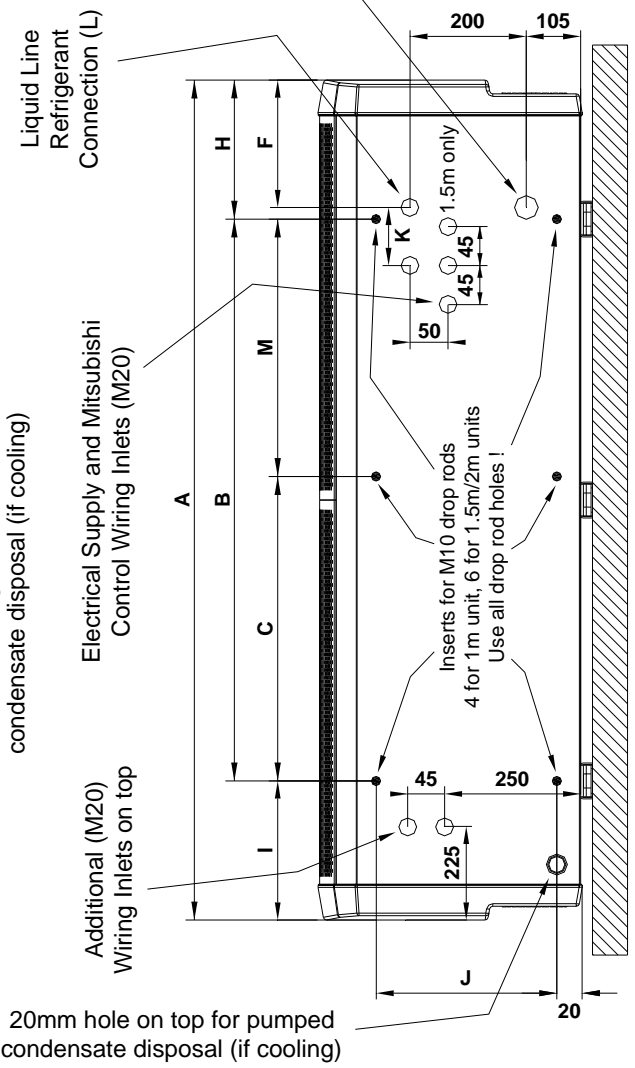

FIGURE 1 – DIMENSIONS OF VRF HP HEAT PUMP AIR CURTAIN
The air curtain is supplied with an integral condensate drain tray fitted inside the unit so it could be used in cooling mode during warm weather, if so desired. This should be decided at the design stage as a condensate drain system will need to be installed if cooling is required and extended to a suitable drain by the installer. The condensate can be drained by gravity by connecting suitable condensate hose onto the 15mm drain pipe on the condensate drain tray inside the air curtain. If a gravity condensate drain is not visually suitable it will be necessary to remove condensate using a condensate pump, supplied and fitted by the installer. The condensate pump can be located inside the right hand end of the air curtain or in a remote location outside of the unit if required. It must be of sufficient capacity, see Page 19, self priming and capable of providing the appropriate suction head so the pump will lift condensate out of the air curtain, particularly if it is in a remote location. There are two hole penetrations at the right hand end of the air curtain for condensate pipework to pass through, see Figure 1, Page 11. Suitable condensate pumps are Peristaltic or Rotary Diaphragm type. We recommend the Blue Diamond rotary diaphragm type with cooling signal sensor (drainStik) manufactured by Charles Austen Pumps Ltd. (www.miniblue.co.uk).
Step 1. Refer to Figure 1, Page 11 for mounting details and drill the fixing points in the wall.
M10 threaded inserts are provided in the top face of the unit (see Figure 1, Page 11 for positions) so it can be suspended on M10 threaded hanging rods (not provided). All suspension points must be used. Ensure each of the hanging rods is secured onto a suitable structure that can support the weight of the unit (see table above)*. Screw the hanging rods into the inserts by a minimum of 20mm and fit locking nuts (not provided) to prevent the rod rotating and coming away from the casing. Do not screw the hanging rod too far in or it could interfere with internal components.
It is intended that refrigerant pipe connections to the air curtain are made using brazed joints and these must be carried out in a professional and safe manner. If installation pipe sizes for the discharge (gas) line and liquid line are different from the pipe connection sizes on the air curtain (see Figure 1, Page 11), suitable pipe reducers must be used for the connection. R410A refrigerant systems can operate at pressures up to 610 psi (c. 42 Bar). These brazed joints may well be located in a public area and a weakness leading to an explosion could be extremely dangerous.
- A 25mm size cable gland or conduit connector should be used for the Electrical Supply into the air curtain. See Figure 1, Page 11 showing where the electrical supply enters the unit.
The air curtain is fitted with a condensate drain tray with 15mm copper outlet pipe at the right hand side of the air curtain. Suitable condensate hose can be fitted to the pipe (see picture) and fed through a 20mm hole at the back of the unit, see Figure 1, Page 11, so condensate will gravity drain away. Means of condensate disposal must then be provided at the rear of the air curtain.
There is space inside the air curtain at the right hand end of the unit to mount a condensate pump. A permanent 230V AC, single phase electrical supply is provided inside the air curtain at the DIN-Rail terminals to power the pump. See Wiring Diagrams 1 & 2 on Pages 16 and 17. There are two 20mm condensate outlet holes in the casing, one at the top of the unit and a lower one at the rear, both fitted with rubber plugs (see Figure 1, Page 11). These can be used to feed a hose from the condensate pump to a remote condensate drain.